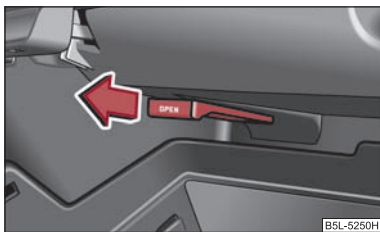

Fig. 90 Storage compartment: Using cooling system
- You can switch on the cooling system by pulling the lever in direction of arrow ⇒ fig. 90.